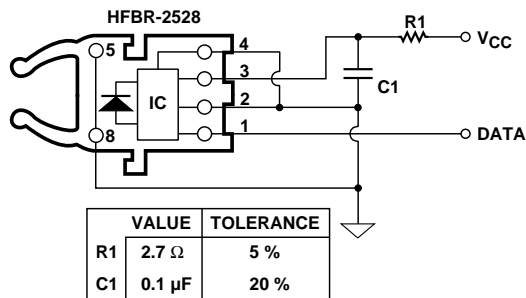

Figure 5. Recommended Receiver Application Circuit.
- Pin 4 is electrically isolated internally. Pin 4 may be externally connected to pin 1 for board layout compatibility with HFBR-25X1, HFBR-25X2 and HFBR-25X4. Otherwise it is recommended pin 4 be grounded as in Figure 5.